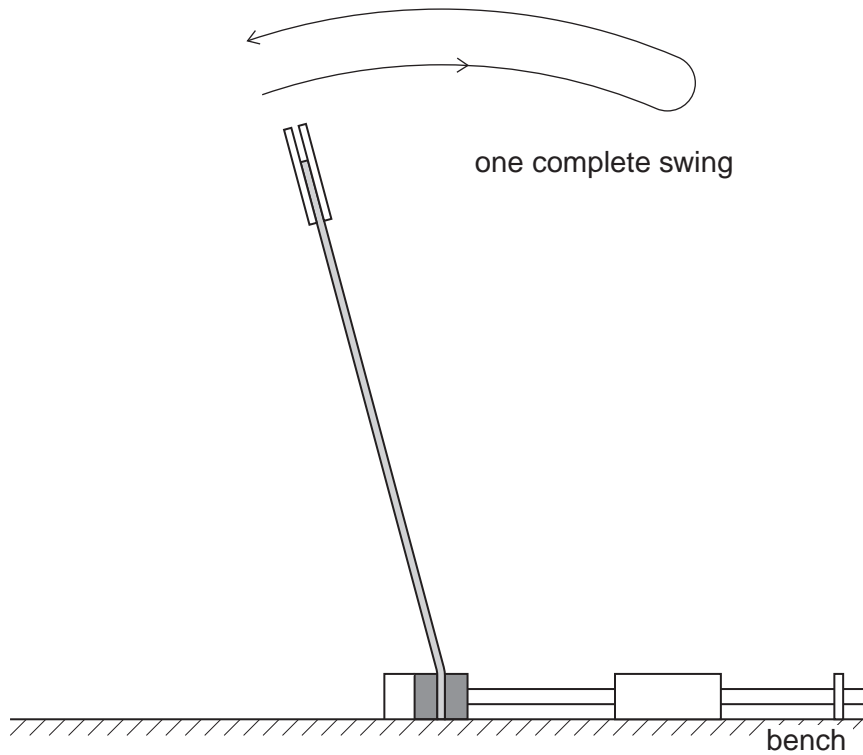

Fig. 2.3
- (c) (i) Gently displace the top end of the hacksaw blade to the left. Release the blade and watch the movement. The blade will move to the right and back towards the left, completing a swing as shown in Fig. 2.3.